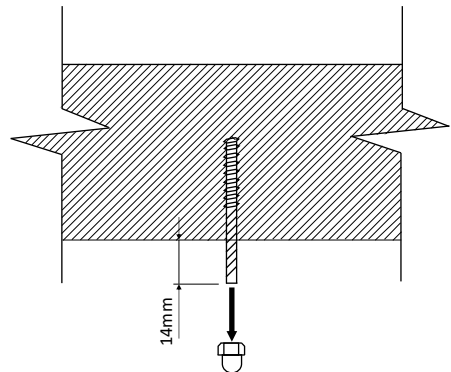

Fig 6
4. Remove the cap from the bolt (Fig 6).